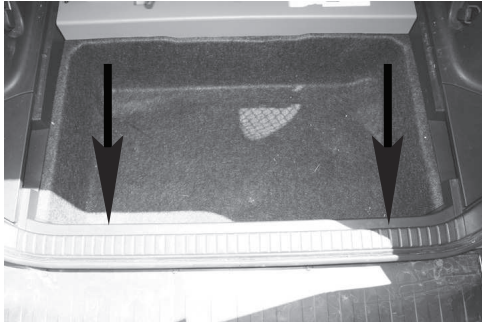

Figure 1
2. Open rear door and remove floor coverings, storage covers and rear threshold by pulling up shown in **Figure 1** taking care not to damage clips.